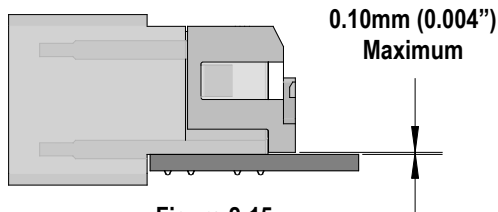

Figure 2-15
5. Using the application tool and an appropriate press, seat the power module until there is less than 0.10mm (.004 in) clearance between the bottom of the plastic housing and the surface of the printed circuit board. See Figure 2-15.